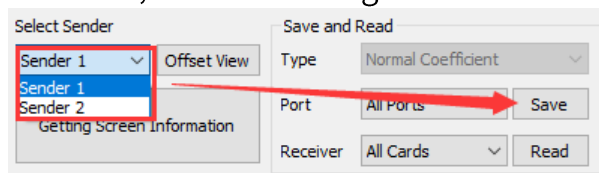

Fig 8.4.5.2 Save calibration coefficients for different senders
Step 6: Switch between each sender and save its calibration coefficients to the corresponding receiver card. Then, check the display effect on the corresponding LED screen, as shown in Figure 8.4.5.2.